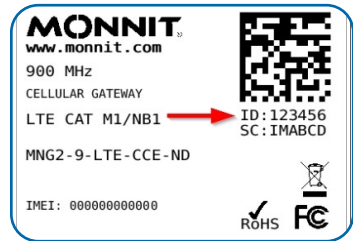

Figure 3
2. Find the device ID. See Figure 3.